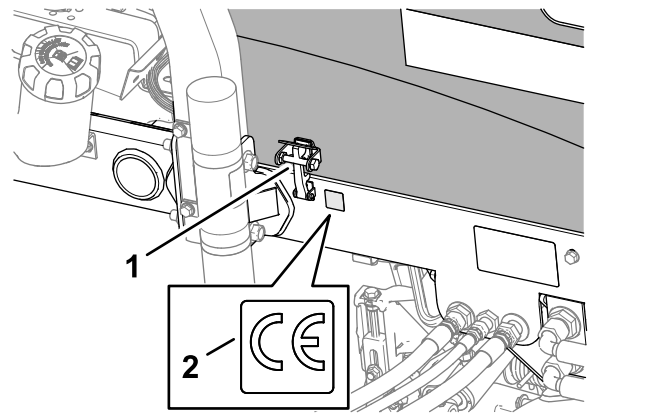

Figure 22
3. Wipe clean the left frame near the hood lock with alcohol, and allow the frame to dry (Figure 22).
4. Remove the backing and apply the CE decal Part No. 133-8095 to the frame as shown in Figure 22.